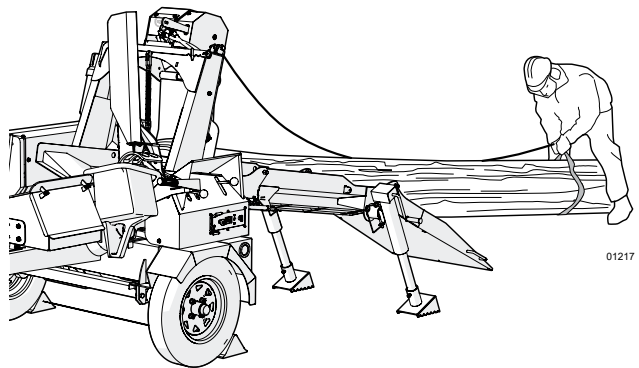

Fig. 35—Move the winch strap
7. Move the winch strap to the far end of the log. See *Fig. 35*.